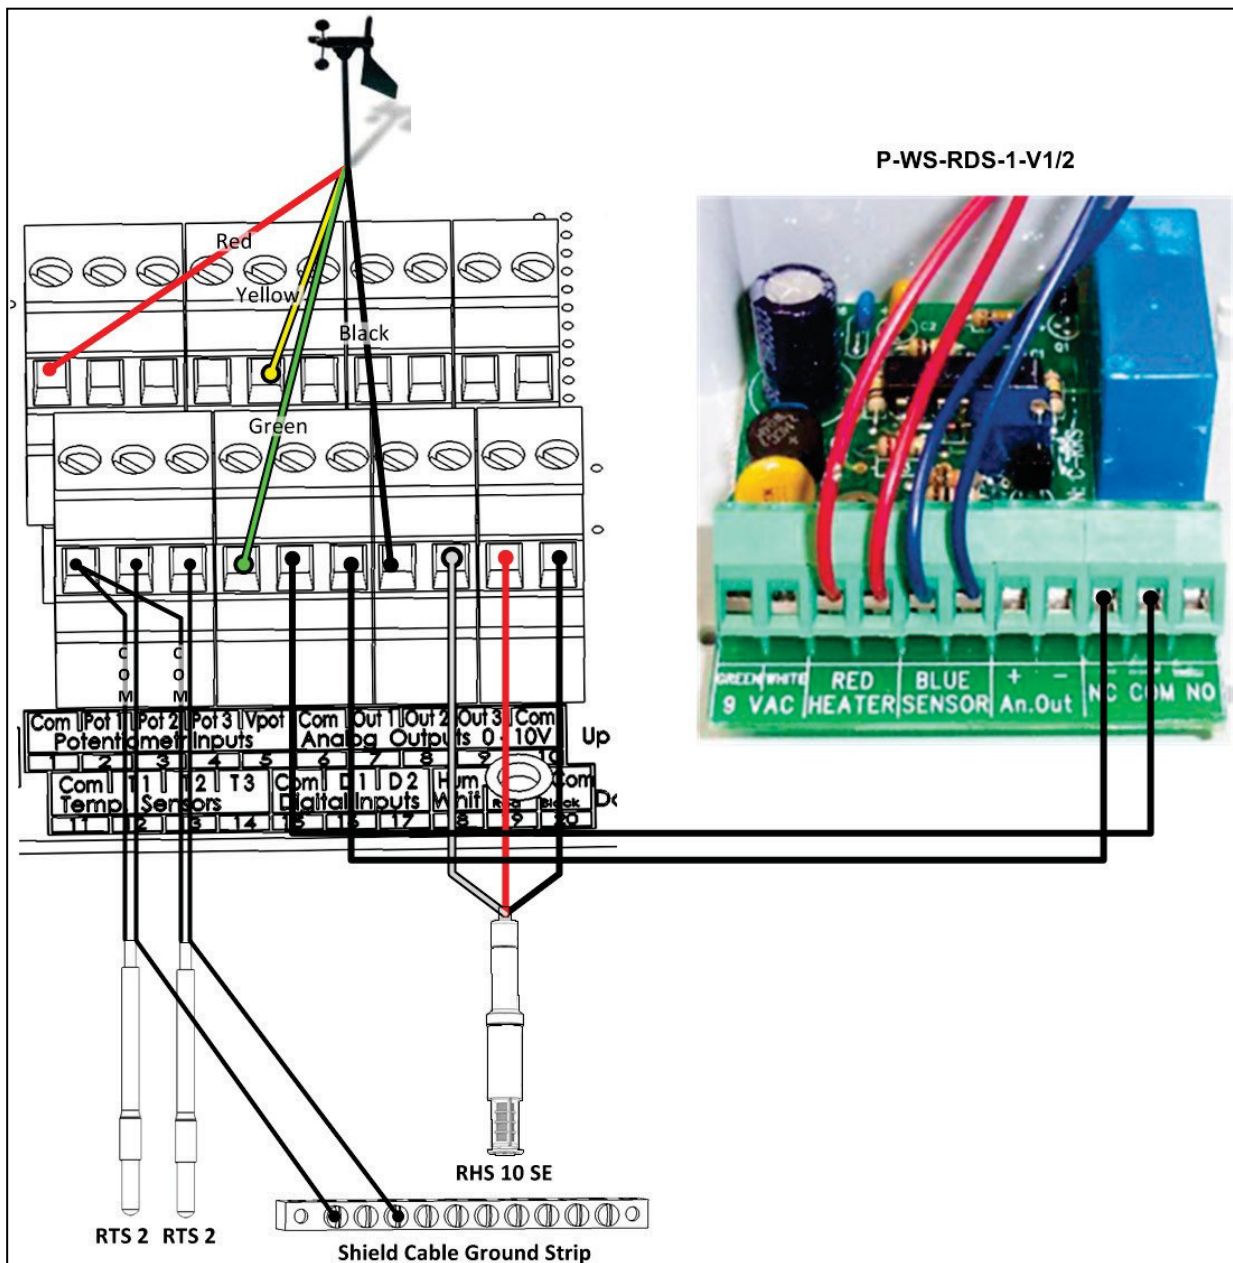

Figure 9: Wiring Diagram of Low Voltage Section
- Figure 9: Wiring Diagram of Low Voltage Section